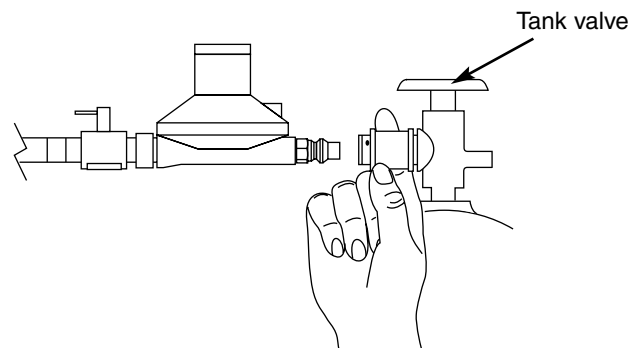

Figure 9
- 2) Slide the collar back on the quick disconnect to disengage the fitting. Figure 9.